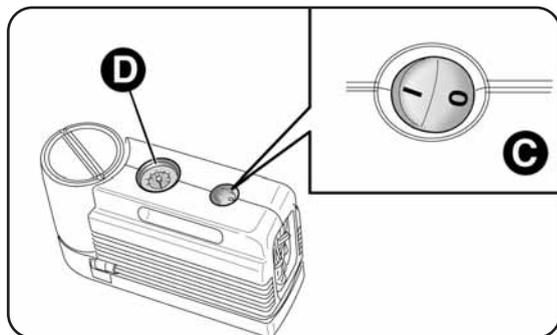
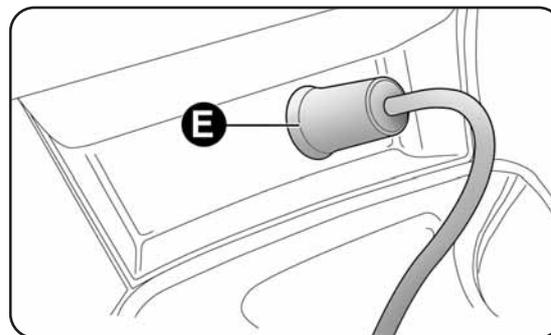

fig. 5
fig. 5a
- make sure that switch C-fig. 5 of the compressor is in position 0 (off), start the engine, insert plug E-fig. 5a into the power socket and switch on the compressor by placing switch D-fig. 5 in position 1 (on);
- Inflate the tyre to the pressure specified in the “Cold tyre pressures” paragraph, in chapter “6”. For a more accurate reading, check pressure gauge D-fig. 5 with the compressor off;